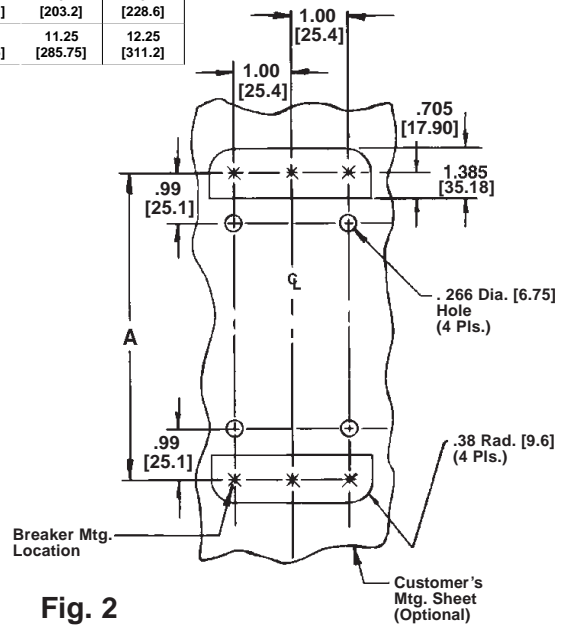

Fig. 2
- If other mounting means are to be used, provide the cutouts and drilling required to mount the adapter blocks as shown in Fig. 2.